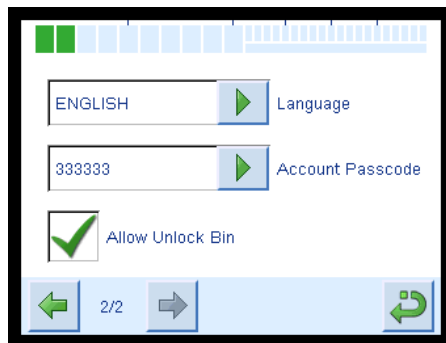

Figure 155:
6. Press the **Right Arrow** key to move to the next screen. Figure 155 will appear.